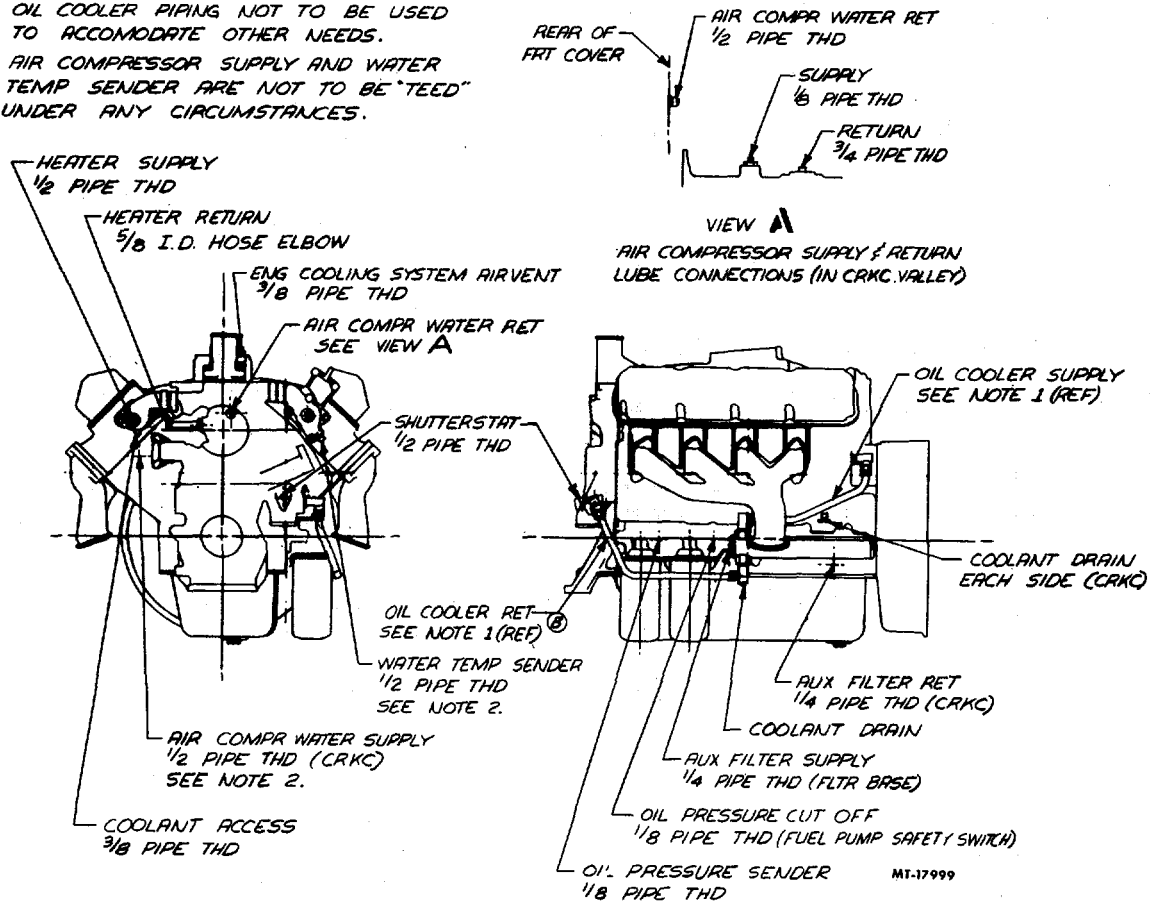

Fig. 126 Engine Connecting
6. Connect the following, if so equipped (refer to Fig. 126).